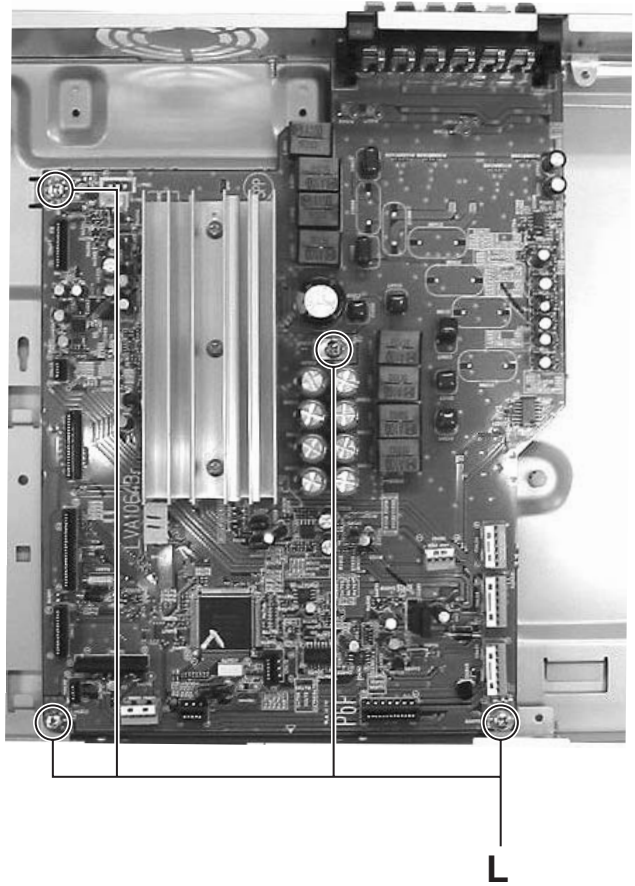

Fig.14
3.1.8 Removing the main board (See Fig.14 and 15)
- (1) Remove the four screws **L** attaching the main board. (See Fig.14)